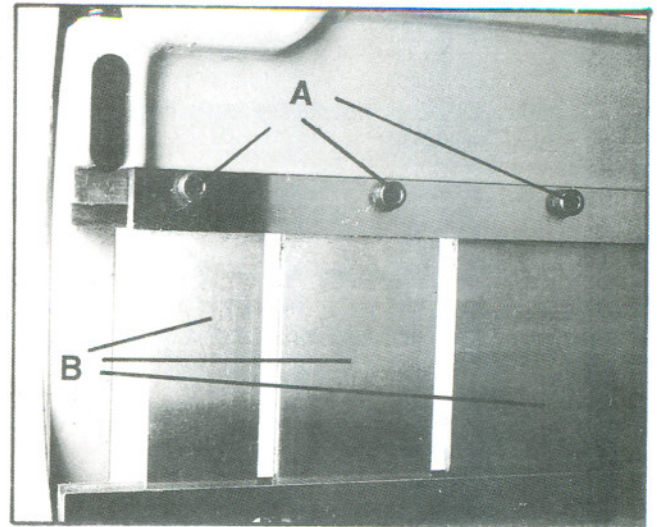

Fig. 4
3. Loosen hex cap socket retaining screws (A, Fig. 4).
4. Select die(s) (B, Fig. 4) for the desired job and remove others.
6. Lock all clamp screws (A, Fig. 4) securely.